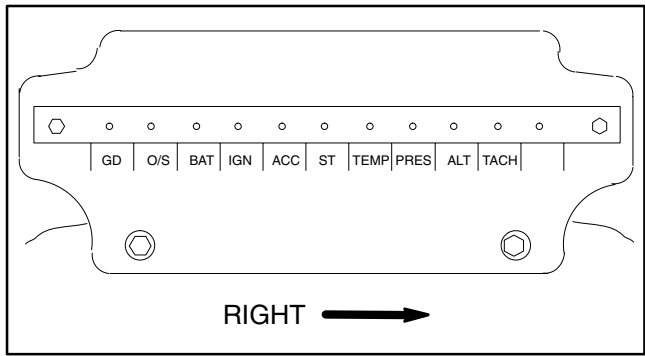

Figure 18
D. Remove caps from studs on engine electrical panel that is attached to engine bell housing. Unscrew nut on each stud and remove machine harness wires from engine electrical panel (Fig. 18):
D. Position machine wire harness to engine bell housing. Install machine harness wires to engine electrical panel (Fig. 18):